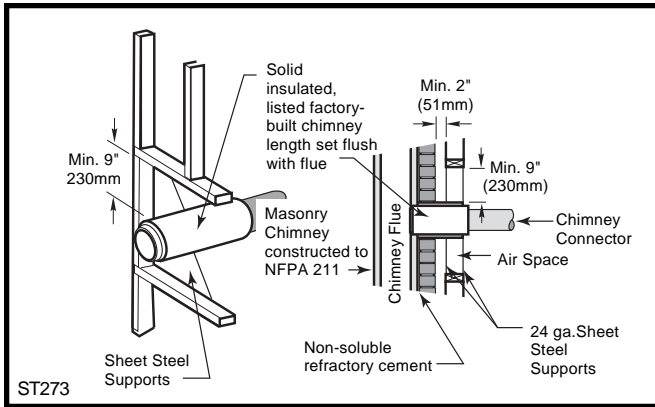

Fig. 10 Wall Pass-through using factory-built insulated chimney section.
- Using a section of double-wall chimney with a 9" (230 mm) clearance to combustibles. (Fig. 10)